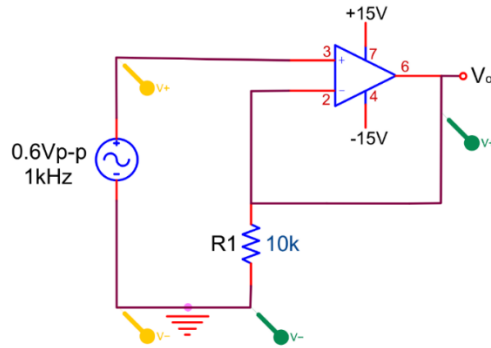

Figure 9.11
7. Construct Figure 9.11, what is the peak value of v_o ?